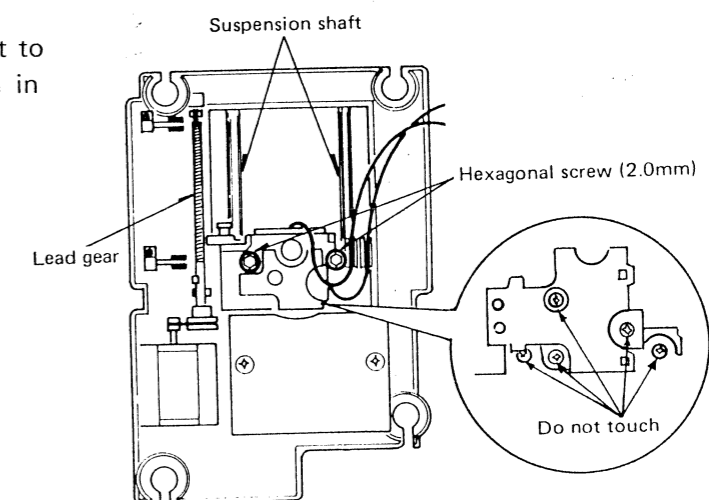

Fig: 4-13. Bottom view of traverse unit
5. To adjust hex 2.0mm screw to the right or left to obtain the RF signal (Visual check) as shown in figure 4-13.